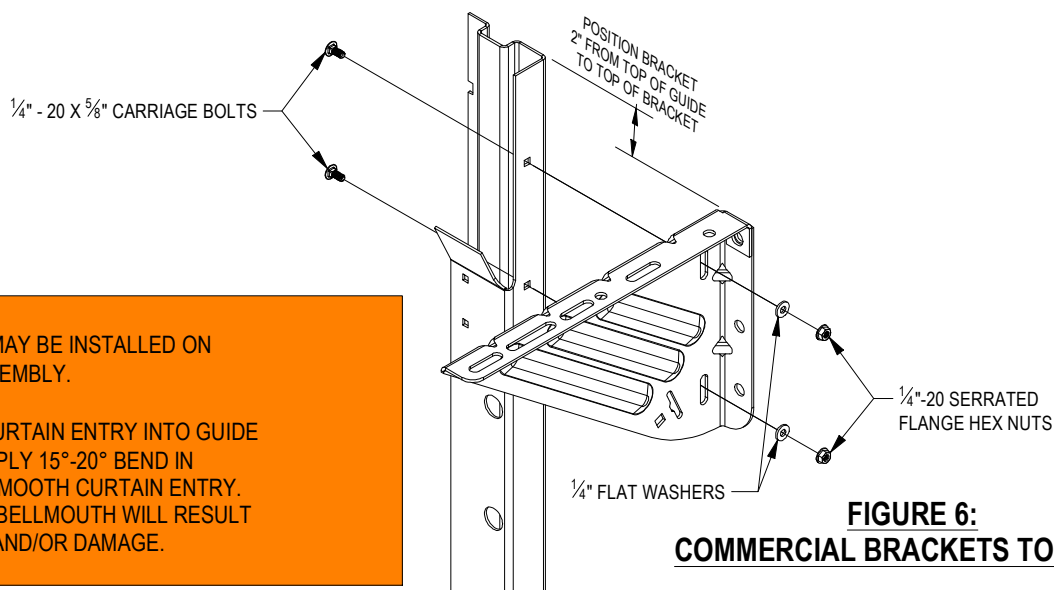

FIGURE 6:
- Attach Commercial Brackets to guides, locating top surface of bracket 2" below top of guide. Use two (2) $\frac{1}{4}$ " - 20 x $\frac{5}{8}$ " Carriage Bolts, $\frac{1}{4}$ " - 20 Serrated Flange Hex Nuts, and $\frac{1}{4}$ " Flat Washers per bracket for tensioner and the non-tensioner (drive) end. For push-up operation. **See Figure 6.**